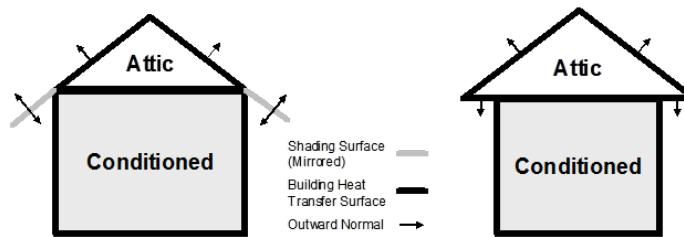

Fig. 8 Proper surface configurations for roof overhangs for two types of attic construction.
**Fig. 8** shows the proper surface configurations for two types of attic construction. In all cases, the roof surface should only include the area of the roof which contacts the zone below it. In these drawings, this is an unconditioned attic space, but it could also be a conditioned zone. Any extensions of the roof which are exposed to the outdoors on both sides should be described as a shading surface.